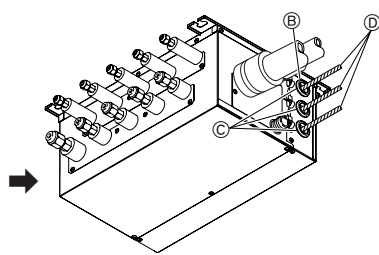

Fig. 9-2
3. Pass the wiring into the branch box. (Fig. 9-2)
7. When the branch box is installed outdoors, ensure that the wiring inlets are sealed with putty to prevent entry of rainwater. (Fig. 9-2)